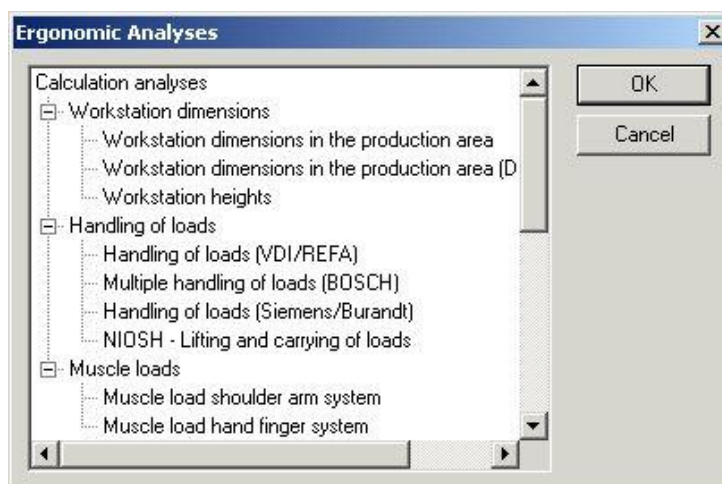

Figure 274: Ergonomic Analyses Selection Window
- 2) The **Ergonomic Analyses** selection window opens (*Please refer to the Figure 274*).